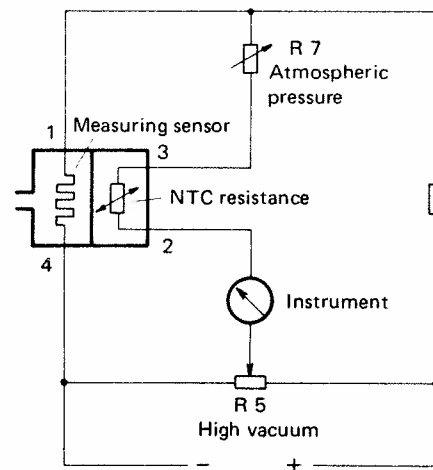

Fig. 2
a) Simple Bridge Circuit (Fig. 2)